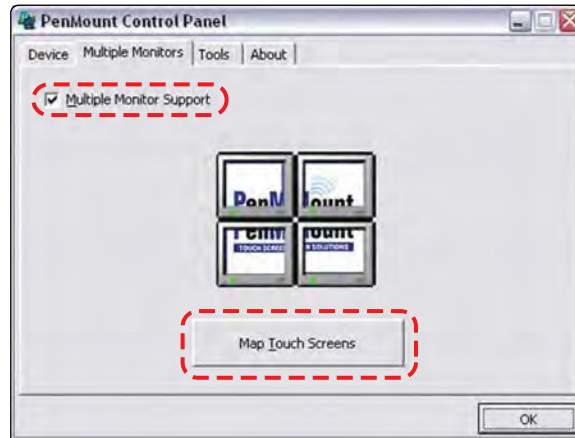

Figure 16-6 Sample Multiple Monitors tab
4. With the **Multiple Monitor Support** box checked, select the **Map Touch Screens** icon (Figure 16-6).